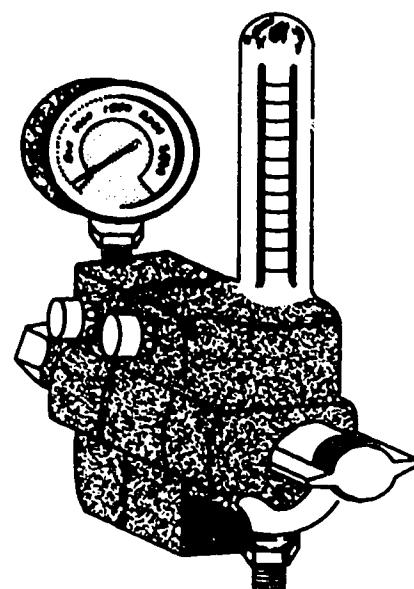

Figure 5-6. Argon regulator flowmeter.
**Gas Control Equipment.** Suitable metering devices are used to control the flow of shielding gases. A combination regulator and flowmeter, as shown in figure 5-6, is available. It steps down the high pressure in the cylinder or manifold cylinders to a lower working pressure. The gas flow to the apparatus is indicated on a flowmeter tube. In operations in which the gas consumption is high, a central cylinder manifold system can be installed, and the gas can be piped to the various welding stations. The flowmeter is equipped with a manual throttle valve for gas flow adjustment, and the welder can set the flow required. The flowmeter tube is calibrated at a positive pressure which normally exceeds any back pressure produced by the apparatus. This makes a true reading of the gas flow possible.